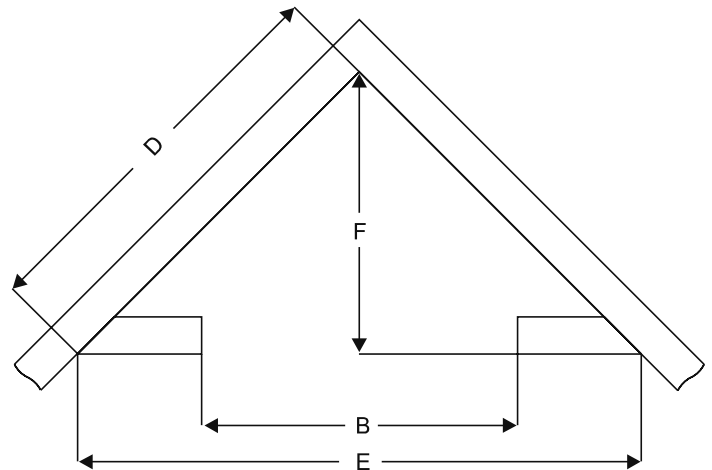

Figure 39 - Rough Opening for Installing in Corner
- Use dimensions shown in **Figure 39** for corner rough opening. Be sure to provide gas line and electrical power for fireplace assembly.